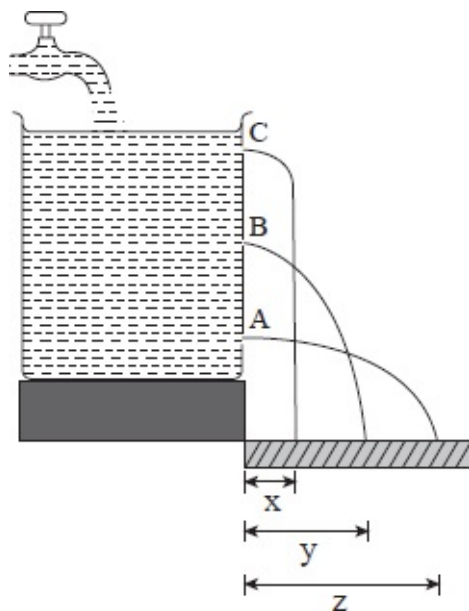

Fig. 4.3: Pressure and depth
- Fill the tin with water as shown in figure 4.3.